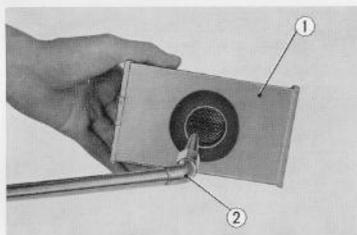

Fig. 5.15 Cleaning air cleaner element
- Tap the cleaner element lightly to loosen the dust and then blow dry compressed air from the inside or use a brush to remove the dust. (Fig. 5.15)